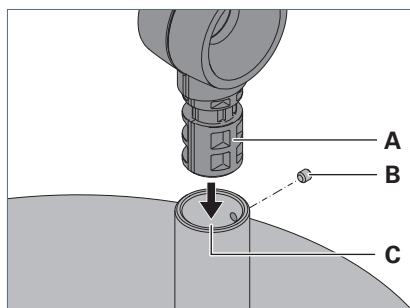

Fig. 2: Mounting a luminaire on a standing base.
- ▶ Insert the stud **A** on the luminaire column into the opening **C** of the standing base, see Fig. 2.